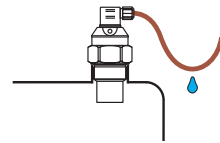

Fig. 9: Prevention to avoid intrusion of humidity
- m) If possible, insert the cable **from above** and let a draining loop in order to avoid intrusion of humidity (Fig. 9).